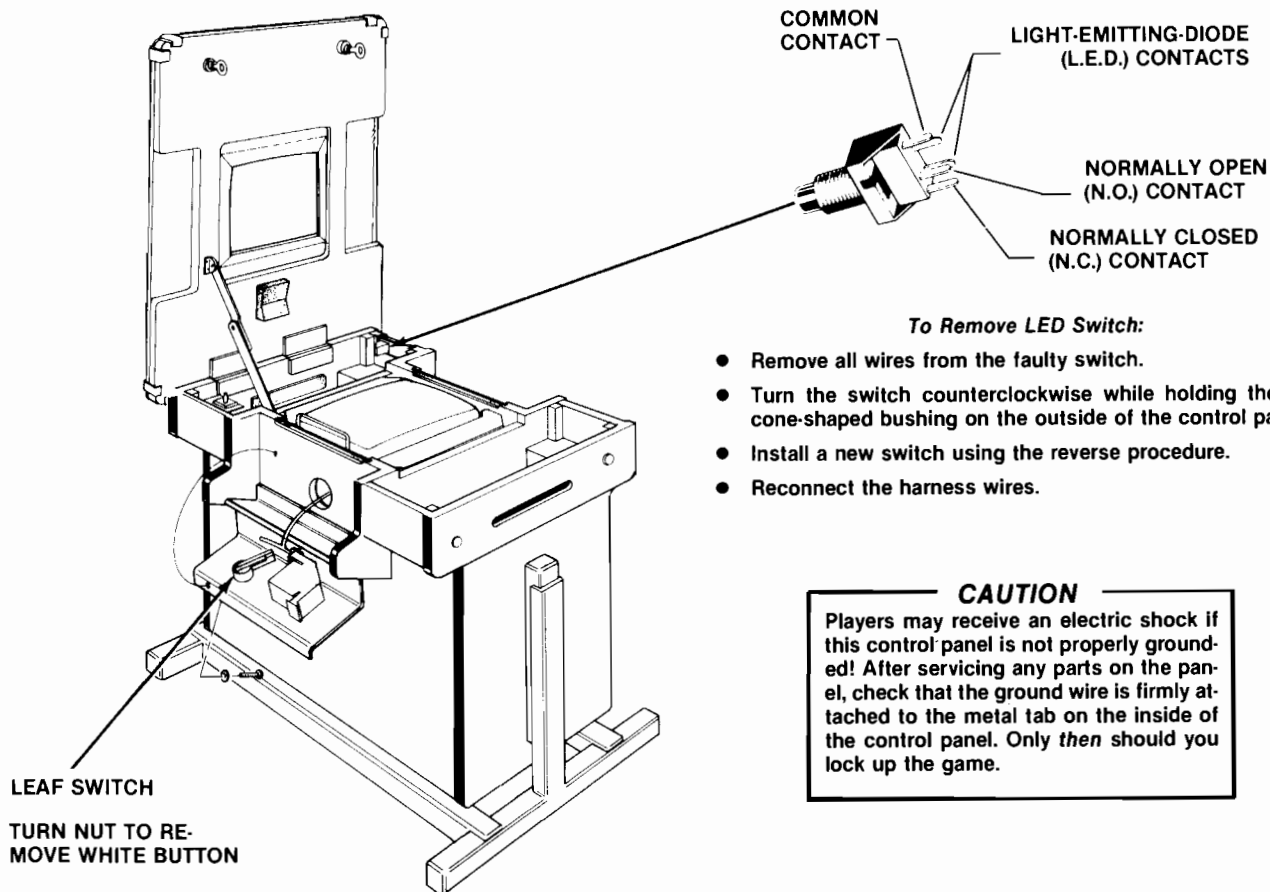

Figure 11 Opening the Control Panel and Replacing Switches
The light-emitting diode (LED) switches near the control panel have a very low failure rate. In case a switch should ever be suspect, first test it per the description that follows. To replace the switch, refer to Figure 11.
- Connect multimeter leads to appropriate LED switch contacts (see Figure 11 for designation of switch contacts and meter lead placement).
To replace any switch, remove both of its screws with a Phillips-head screwdriver—see Figure 11.
The Mini-Trak Ball™ control requires lubrication of its bearings approximately every 6,000 credits or every 3 months. To lubricate or repair the control, remove the control from the control panel and disassemble it as illustrated in Figure 11.
For further instructions on how to replace the ball, either coupler PCB or either encoding wheel, see Figure 11.